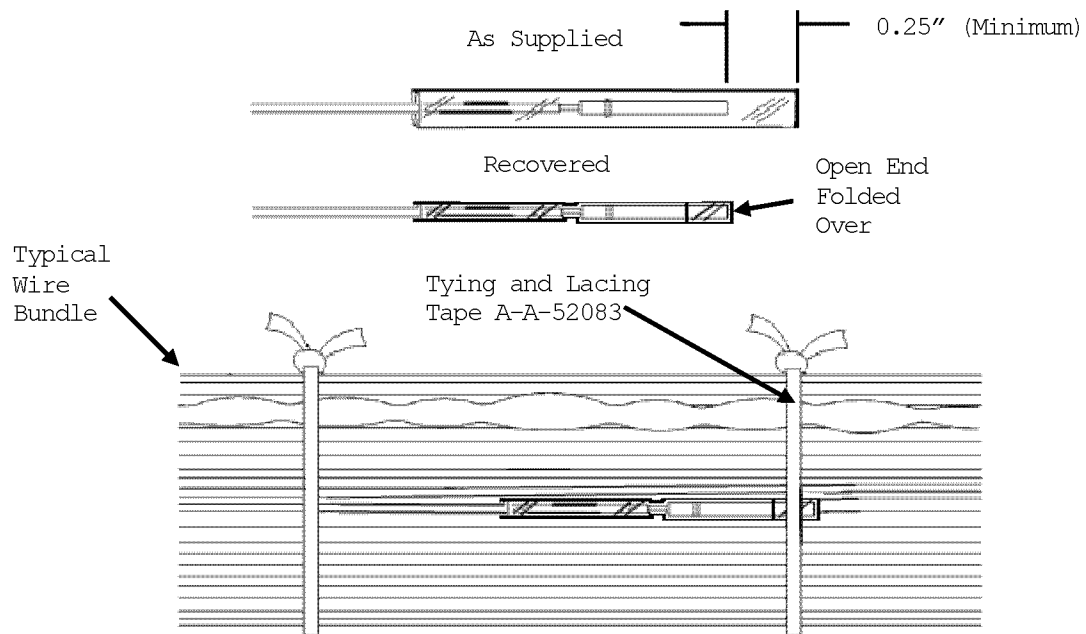

Figure 11. Capped and Stowed Contact
- b. Apply SAE AMS-DTL-23053 heat shrinkable tubing to snugly fit over individual contacts. Trim to minimum of 0.25” on either side of contact and shrink/recover using the approved heat gun (WP 012 00). (See Figure 11).